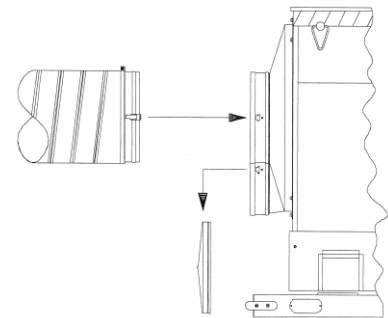

FIGURE 5
2. Place air duct in aircraft and ensure that the opening is unobstructed. Remove yellow output air duct from the storage compartments located under the unit. Remove yellow dust caps from the input and output duct openings located on the back of the air conditioner and place in the storage compartment. Attach yellow output air duct to the air conditioner via the duct opening located on the back of the air conditioner. **See Figure 5.** Place other end of yellow duct into the aircraft.